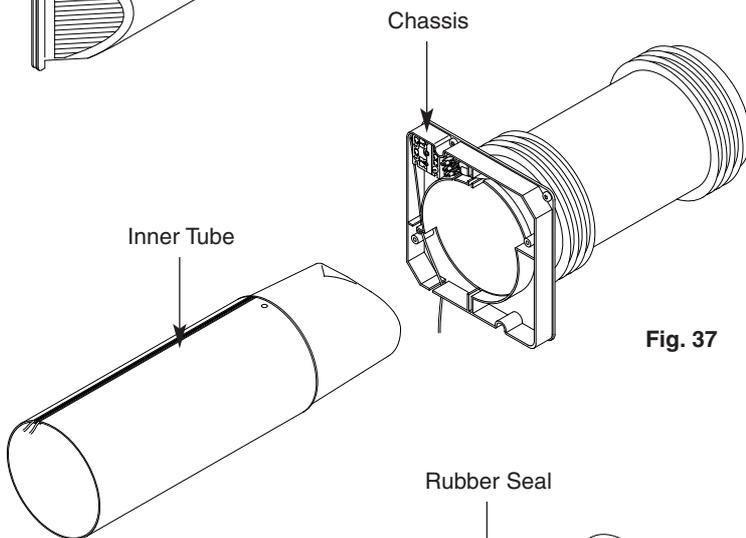

Fig. 37
3. Slide the inner tube out of the unit by pushing the motor housing (Fig. 37).